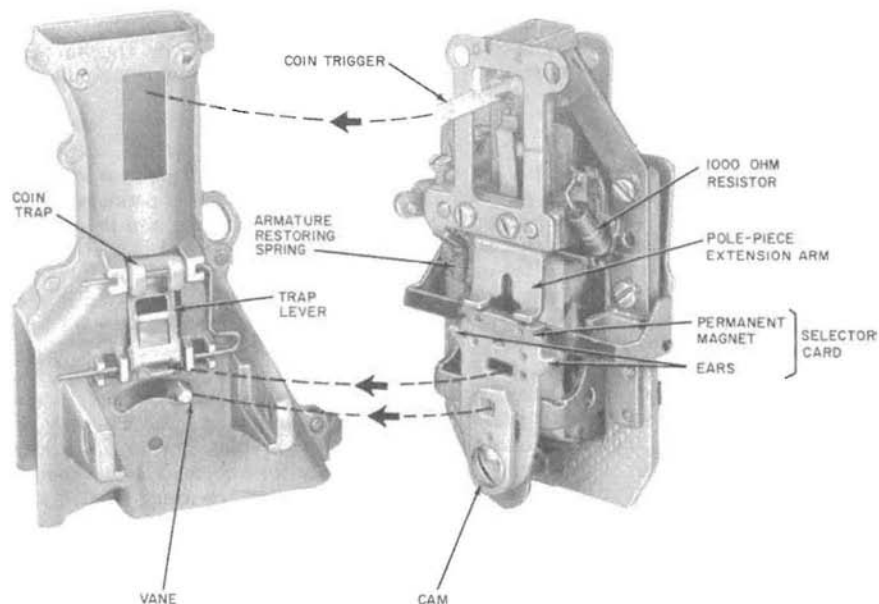

Fig. 28—Coin Hopper and Rear View of Coin Relay
5.37 The single-coil coin relay (Fig. 15) consists of a nonpolarized armature and relay coil designed for fast operation and slow release. Collect and refund operation of the coin vane is controlled by a polarized selector card located at the back of the relay assembly as shown in Fig. 28. The selector card is made of nylon and has a small permanent magnet embedded along its upper edge.